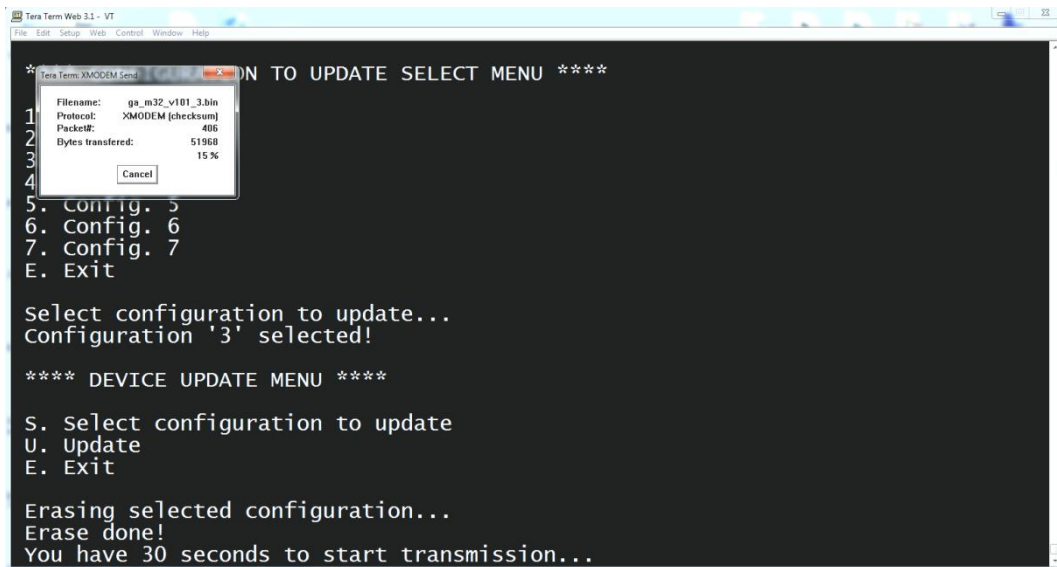

Figure 8. The FPGA Update in Progress
- The FPGA update takes about 30-40 seconds (Figure 8).